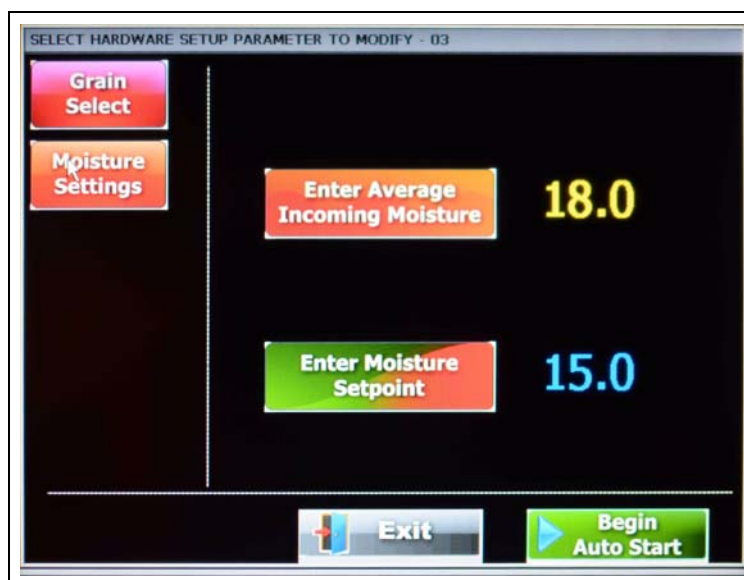

Figure 5M Moisture Setting Screen
2. Press the Moisture Settings button to enter the average incoming moisture and the moisture setpoint. (See Figure 5M.)